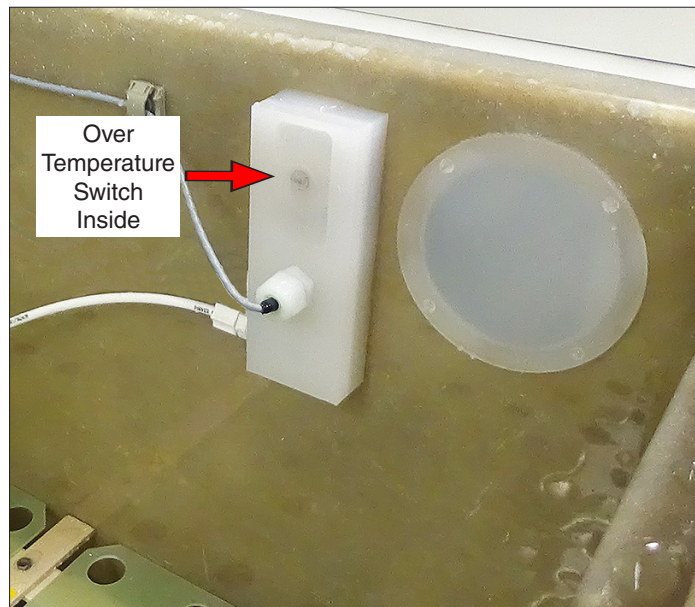

Figure 8.8b: Over temperature switch located inside cover.
- An over temperature switch is mounted on the right side of the chamber to protect the chamber from excessive heat (Figure 8.8b).